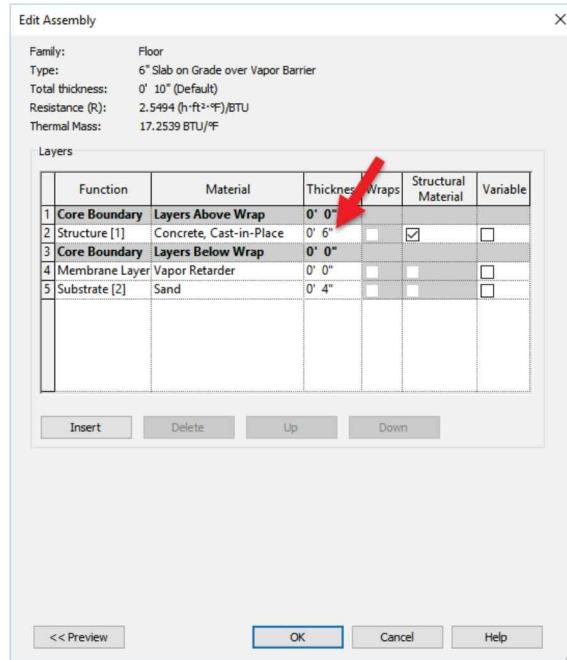

FIGURE 9-1.8 Changing the conc. slab thickness
24. Change the *Concrete* thickness from **4"** to **6"** (Figure 9-1.8).